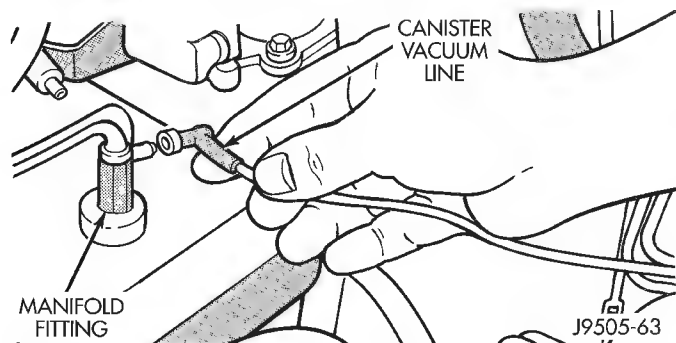

Fig. 10 Canister Vacuum Line Location (At Manifold Fitting)
(7) Disconnect canister vacuum line at manifold fitting (Fig. 10).